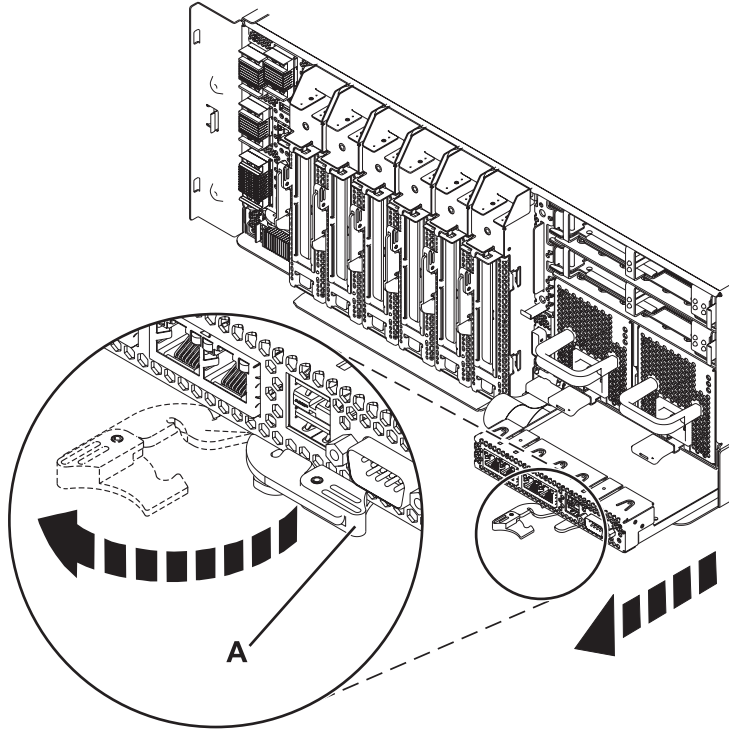

Figure 1. Removing a Host Ethernet Adapter for 17M/MB or 79M/HB
5. Locate the Ethernet adapter that you want to remove as shown Figure 1.